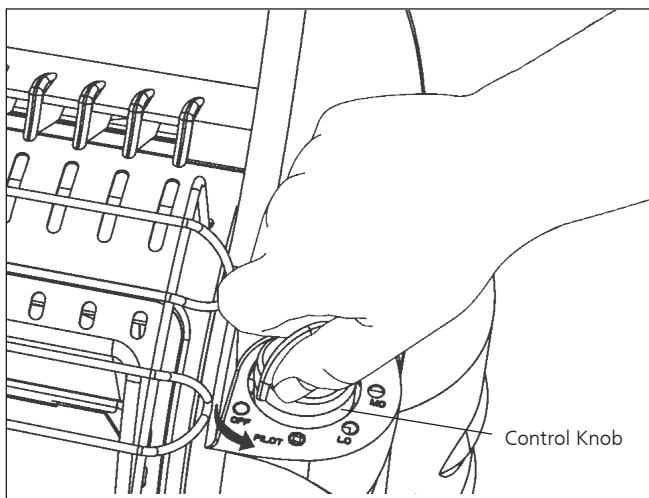

Figure1
- Make sure five-position Control Knob is in "OFF" position; see Figure 1.
- Make sure five-position control knob is in "OFF" position; see Figure 1, at left.